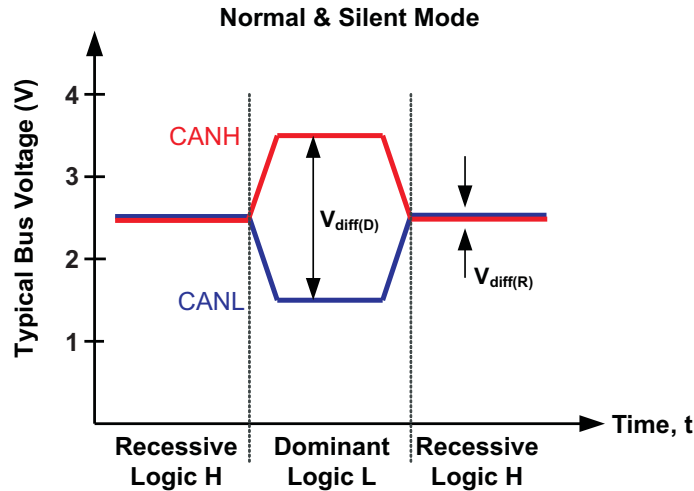
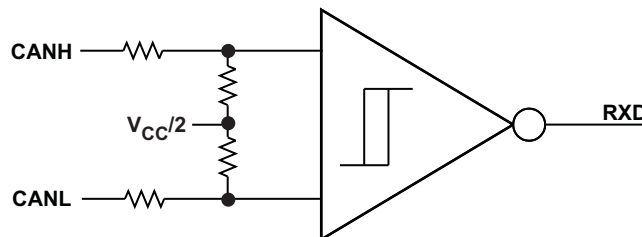

Figure 15. Bus States (Physical Bit Representation)
Figure 16. Simplified Recessive Common Mode Bias and Receiver
(1) H = high level, L = low level, X = irrelevant, Z = common mode (recessive) bias to $V_{CC} / 2$. See Figure 15 and Figure 16 for bus state and common mode bias information.
(2) Devices have an internal pulldown to GND on S pin. If S pin is open the pin will be pulled low and the device will be in normal mode.
(3) Devices have an internal pullup to V_{CC} on TXD pin. If the TXD pin is open the pin will be pulled high and the transmitter will remain in recessive (nondriven) state.
The CAN bus has two states during powered operation of the device: *dominant* and *recessive*. A dominant bus state is when the bus is driven differentially, corresponding to a logic low on the TXD and RXD pin. A recessive bus state is when the bus is biased to $V_{CC} / 2$ via the high-resistance internal input resistors R_{IN} of the receiver, corresponding to a logic high on the TXD and RXD pins. See Figure 15 and Figure 16.